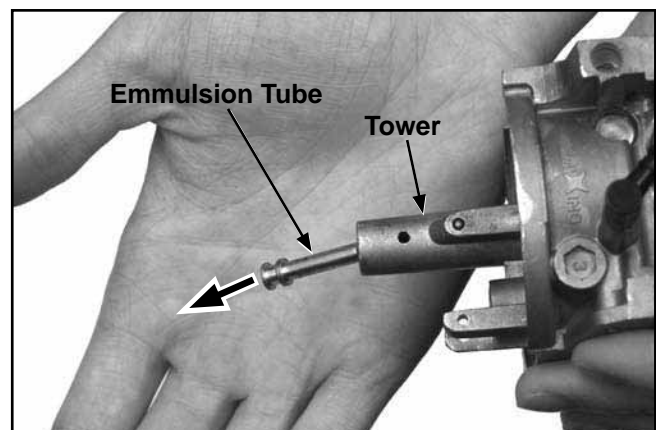

Figure 5-9. Emulsion Tube Removal.
3. Unscrew the main jet from inside the tower. A light tap on the tower will dislodge the emulsion tube. See Figure 5-9.
7. Install the emulsion tube and then screw in the main jet. See Figure 5-9.